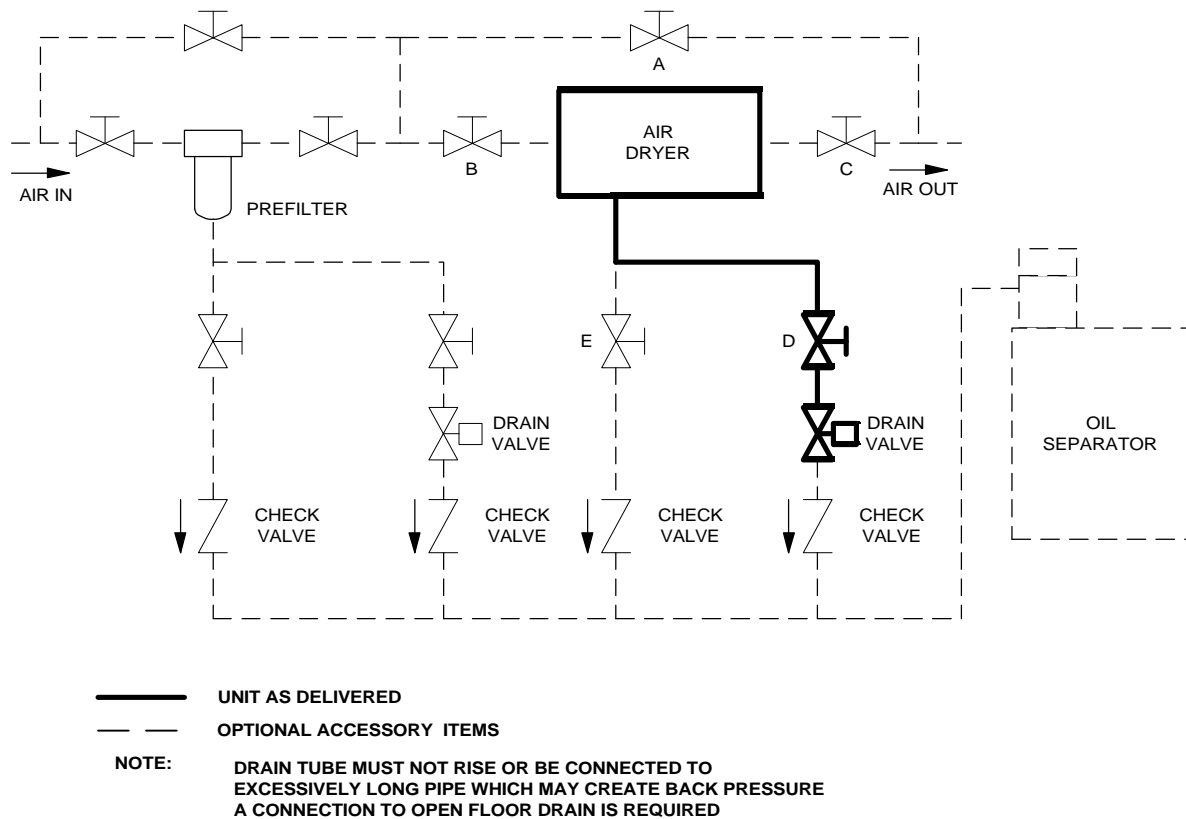

FIGURE 4
ZEKS 500 through 800 NCE models come factory installed with a drain isolation valve (D). The isolation valve permits maintenance of the automatic drain without isolating air flow to the dryer. To operate dryer, all valves shown in Figure 4 are to be closed except valves (B), (C) and (D). Valve (A) is used for bypass purposes and valve (E) is for test and manual drain purposes.